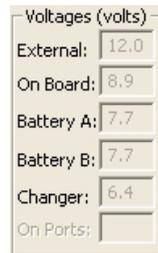

Figure 2-6. View Voltages Information
8. View the *Voltages* information (Figure 2-6).